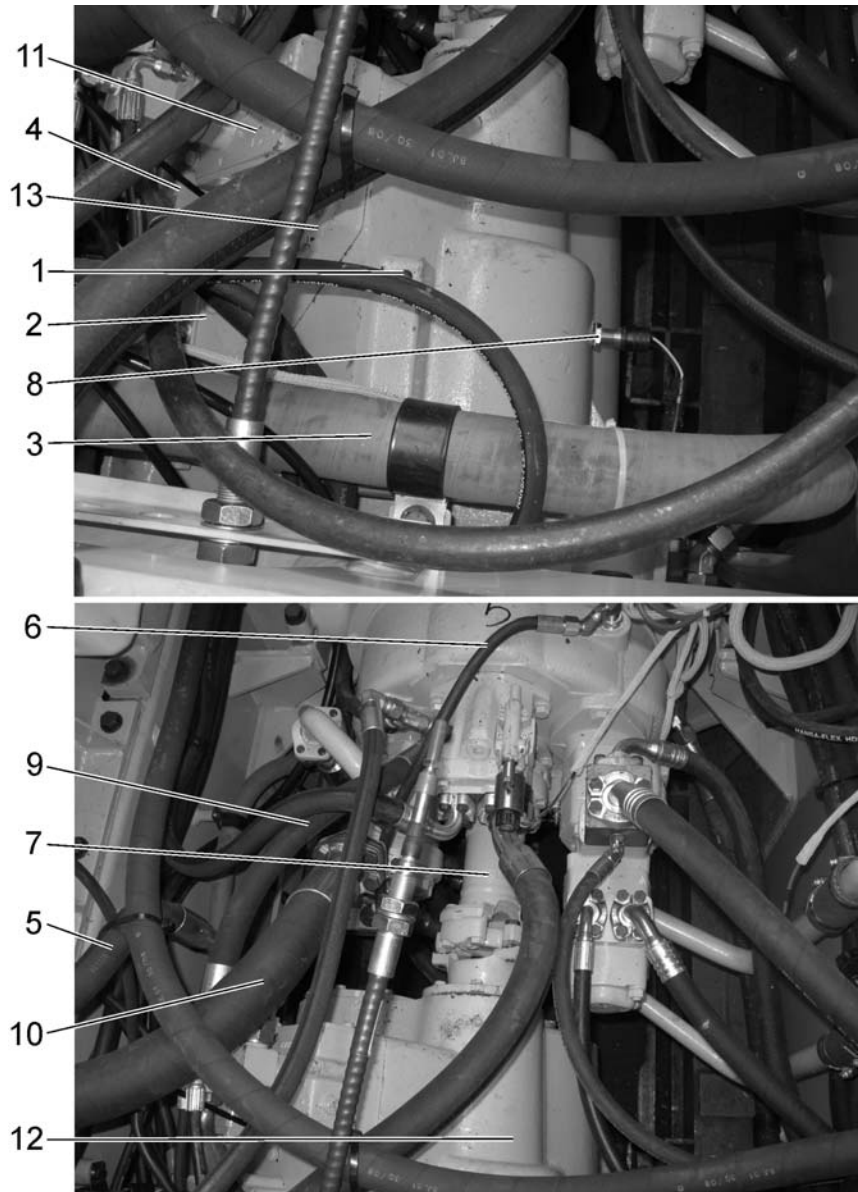

Fig. 7C.2. Transmission Disconnecting Points (Top View)
9. Remove the hardware securing the range selector valve (2, Fig. 7C.2) and pressure regulator valve (11) to the manifold (13) located on the transmission (12). Tie the valves (with hoses still attached) up out of the way.
10. Disconnect the transmission scavenge hose (3, Fig. 7C.3) from the transmission (1).
11. Remove the universal joint (7, Fig. 7C.2) from between the torque converter and transmission.